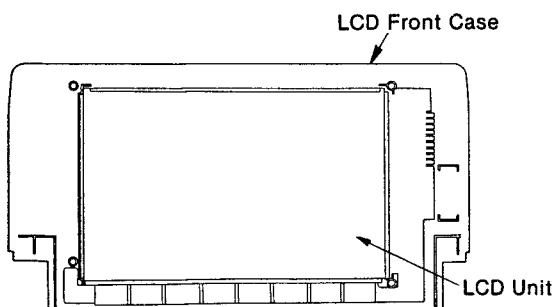

Figure 33
- (1) Put the LCD Unit on the LCD front case as shown in Figure 33.